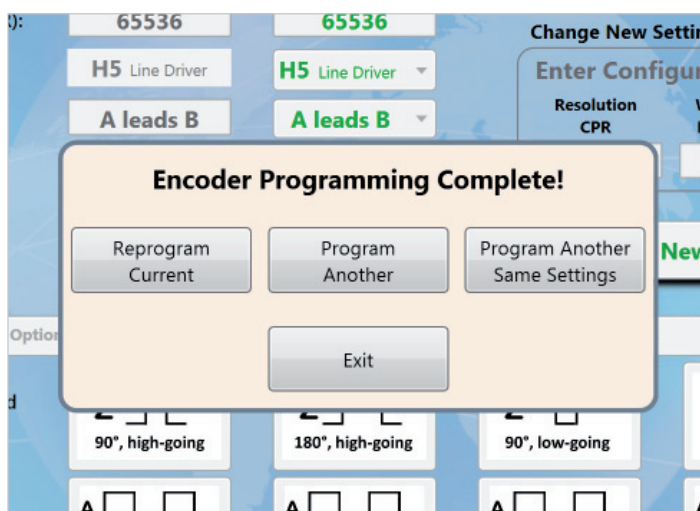

Figure 6
10. When programming is complete, prompt will appear (see *Figure 6*).
11. Before disconnecting encoder from Interface Cable, choose from the exit options that appear on-screen (see *Figure 6*).